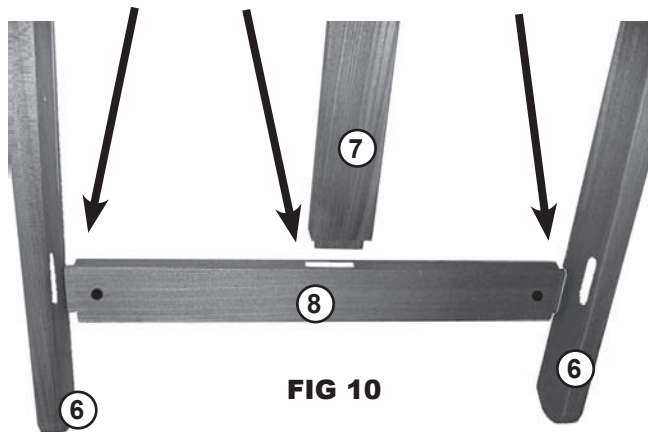

FIG 10
STEP 10. Finish assembling the H-Frame by attaching the lower cross member (8) to the ratchet column (7) by inserting the ratchet column down into the oval hole of the lower cross member. Secure by fitting the lower cross member into the oval holes of the channelled sides (6). See FIG 10. Secure this step, using two 6 X 60mm bolts and Cams as previously described in earlier steps. (as in Step 3)